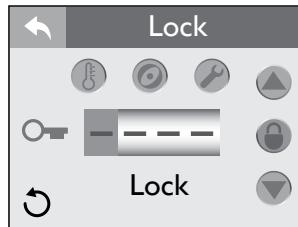

Figure 12.8b
**A. Temp Lock (Figure 12.8b):**
**B. Spa Lock (Figure 12.8b):**
**C. Service Lock (Figure 12.8b):**